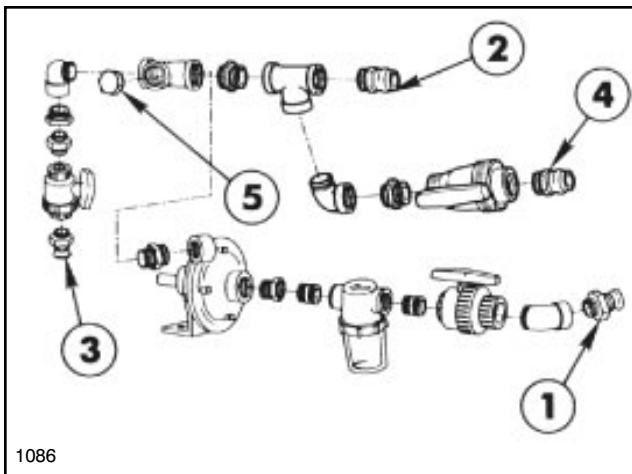

FIG. 5
3. Secure the Centrifugal Pump in a vise. Apply thread sealer and install the fittings to connect the Suction, Supply, Agitator and Overflow Hoses to the Pump as shown in FIG. 5.